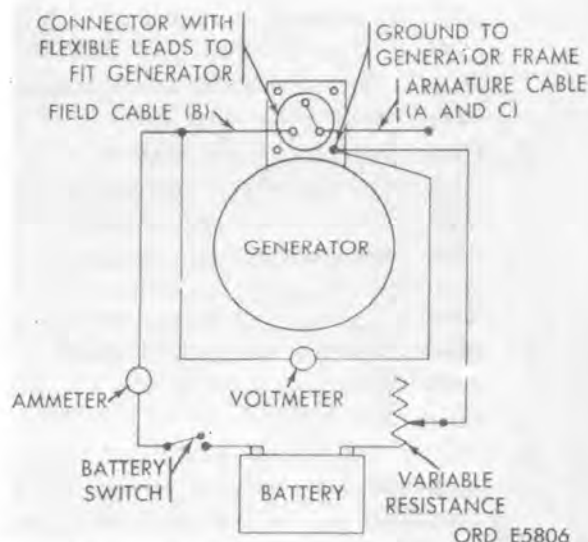

Figure 3-2. Field current draw test hook-up.
- (1) Mount generator on test stand. Connect generator for field current draw test as shown in figure 3-2. If required, make a test connector by connecting leads to a plug that will mate with the generator receptacle. Connect A and C terminals together and to one test lead. Connect B terminal pin to second lead. Plug this connector into generator receptacle.
(5) If windings are not open or grounded, connect an ammeter, battery, and a variable resistance in series with the B connector pins and the winding ground terminal. Connect a voltmeter between the B lead and the field winding ground lead, refer to figure 3-2. Adjust the voltage with the variable resistor, to the field winding draw voltage specified in table 4-1 and check the ammeter reading. If current is not within limits of field winding draw, replace frame and field assembly.
(6) Inspect pilots of frame and field assembly for roughness which could cause a poor seal with the end bells. Inspect threads in tapped holes. Discard frame and field assembly if threads are unserviceable.